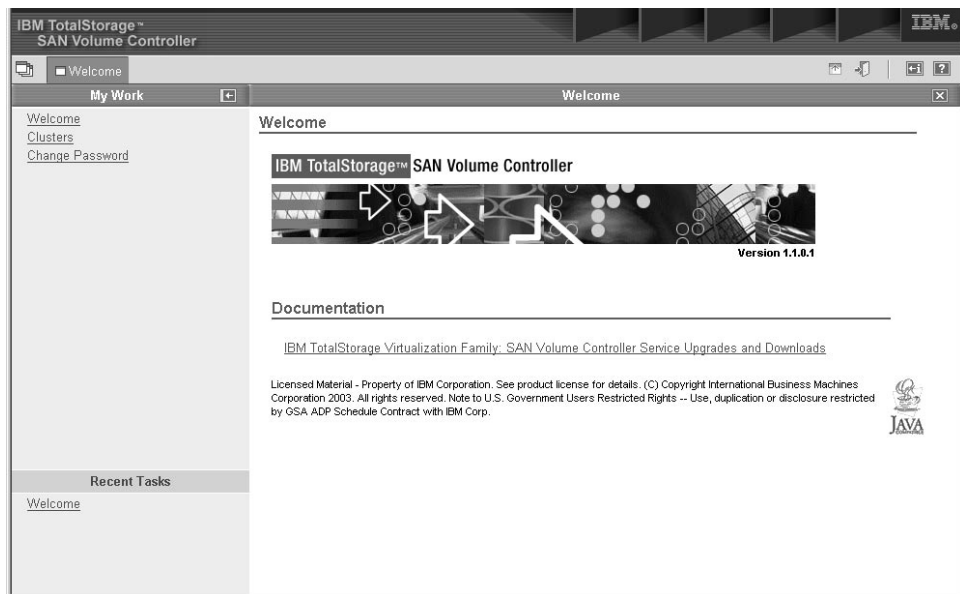

Figure 20. SAN Volume Controller Console Welcome panel
2. Enter the SAN Volume Controller Console user name and password provided by the customer; the following Welcome panel is displayed. See Figure 20.